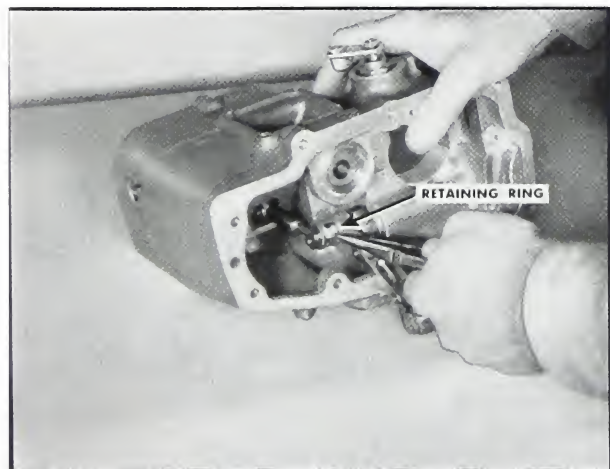

Fig. 5-219. Removing retaining ring from eccentric shaft
2. Remove the retaining ring from the eccentric shaft and lift out the linkage. Fig. 5-219.